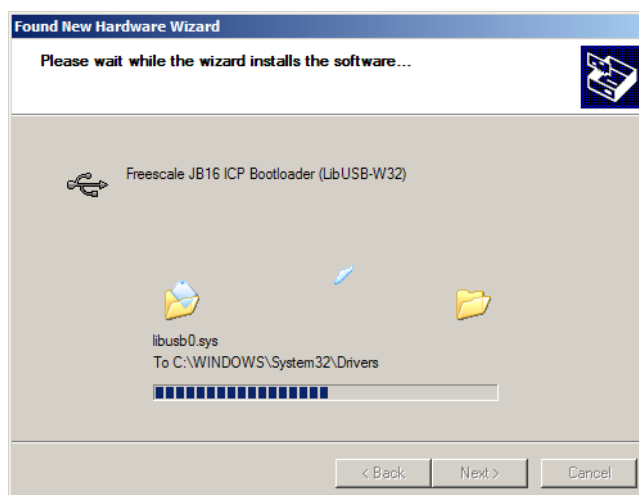

FIGURE 9. Copying the driver files
4. The wizard will then copy the ICP drivers (see figure 9).